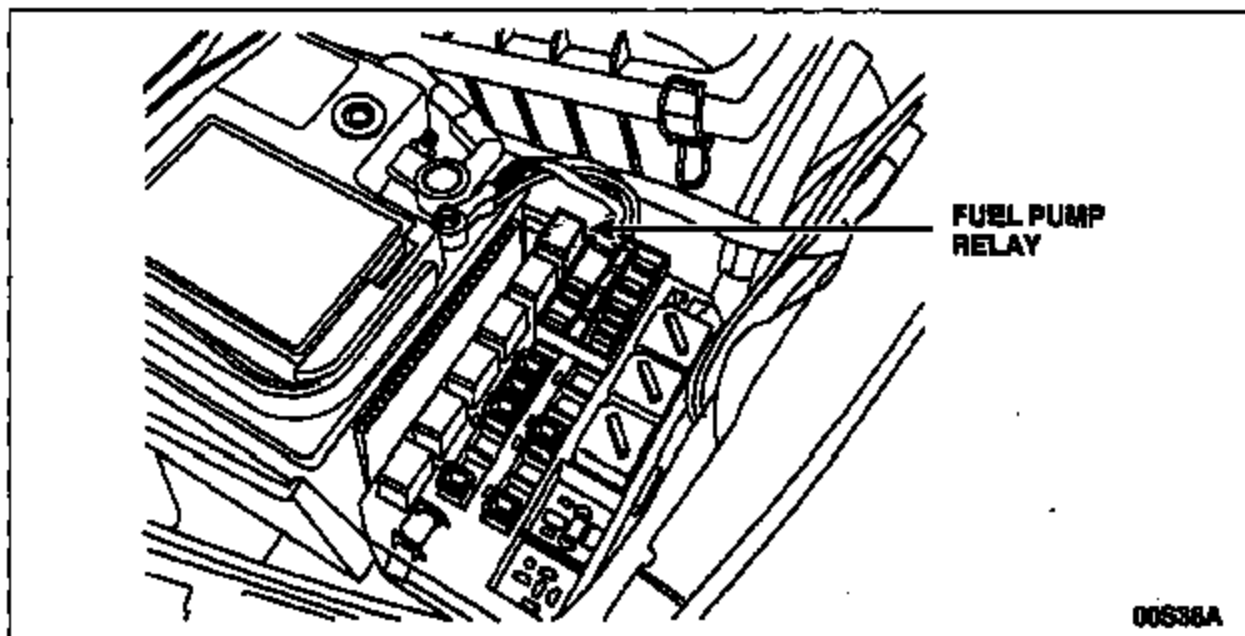

FIGURE 1
1. Relieve gasoline fuel system pressure. Be sure the bi-fuel switch is in the GASOLINE mode first, then remove the fuel pump relay from the power distribution box under the hood. Start and run the engine until it runs out of fuel (engine stalls) then crank the engine a few more seconds to make sure no residual gasoline fuel pressure is left. Reinstall the relay. See Figure 1.